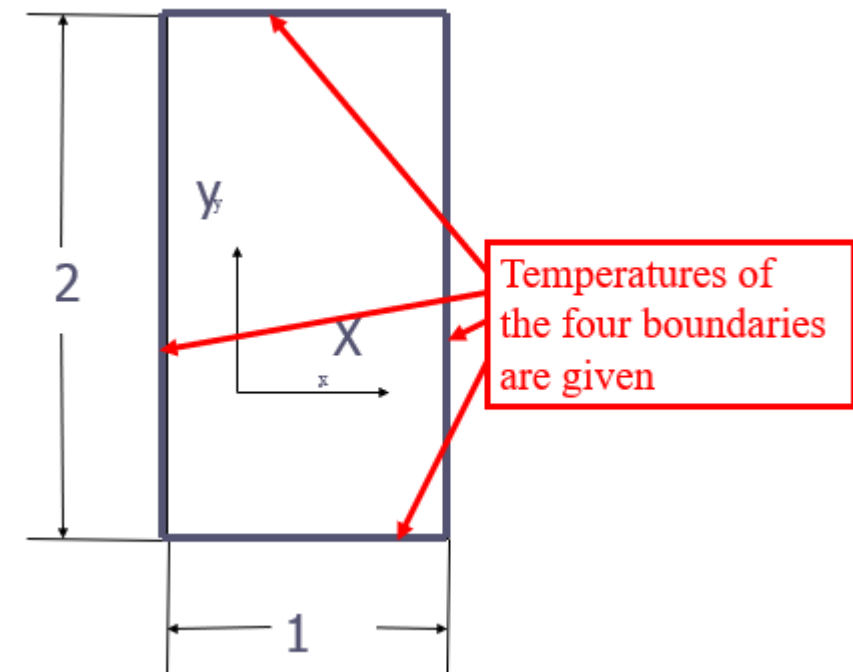

Fig.1 Computational domain
**Known:** Steady heat conduction of constant properties without source term shown in Fig. 1 has following temperature distribution on four boundaries: